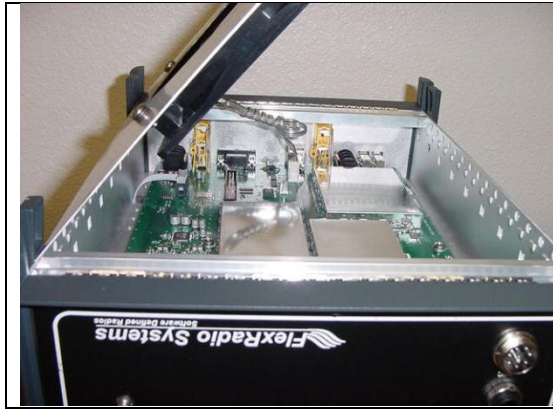

Figure 7a
a. Set one side of the Fan plate along the side of the radio with the fan power cord at the back of the radio. (See Figure 7a) The power connector is keyed, so it will only go on one way. If you look at the connector, you'll notice it has two vertical ribs on one side. Install the connector so that the white plastic piece, on the transceiver board, and the side of the fan with the ribs go together. **DO NOT CONNECT THE FAN POWER CABLE TO THE COM1 CONNECTOR THAT LOOKS VERY SIMILAR TO THE FAN POWER CONNECTOR.**